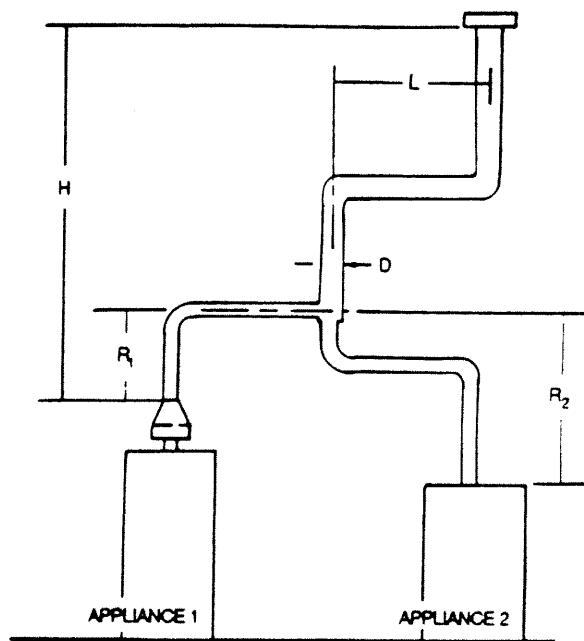

FIGURE 14
6. If the common vertical vent is offset as shown in Figure 14, the maximum common vent capacity listed in the common venting tables should be reduced by 20% ($0.80 \times$ maximum common vent capacity).